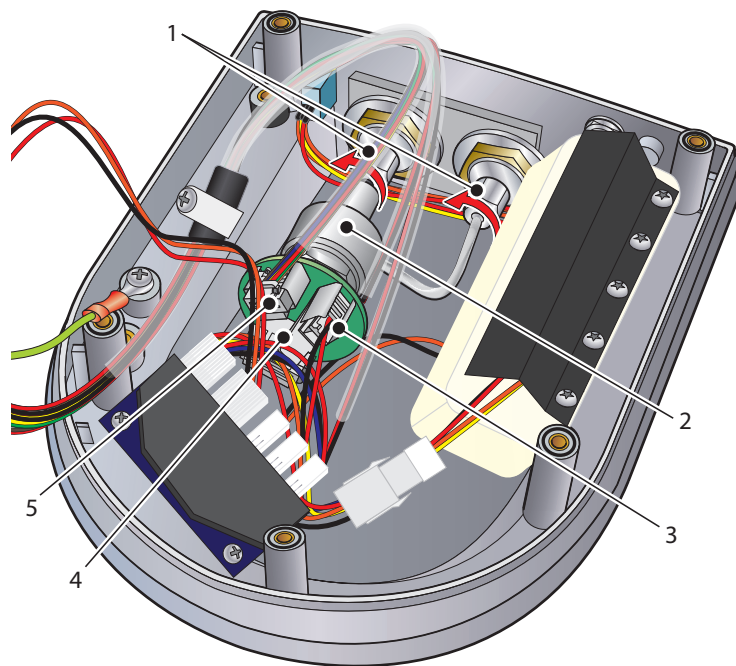

Figure 3 *Internal Sensor Removal*
2. Remove the connectors, (3), (4) and (5) from the back of the sensor (see *Figure 3*). **NOTE: Each connector is locked in position by a clamp situated at the back of the connector. Before attempting to pull the connector out, push this clamp away from the connector in order to release it.**
3. Use a spanner to unscrew the locknuts (1) securing the sensor to the gas inlet and outlet ports.
4. Lift the sensor (2) clear.